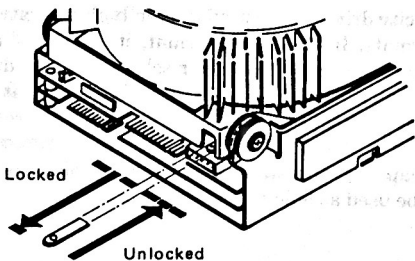

Figure 1-4
2. Referring to Figure 1-4, locate the shipping lock at the rear of the Hard Disk Drive and push the end of the lock until it is flush with the disk drive housing.